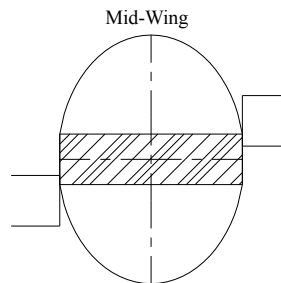

Fig.2
3. If the bottom or the top of the wing falls within this zone, it's a mid-wing (Fig. 2).